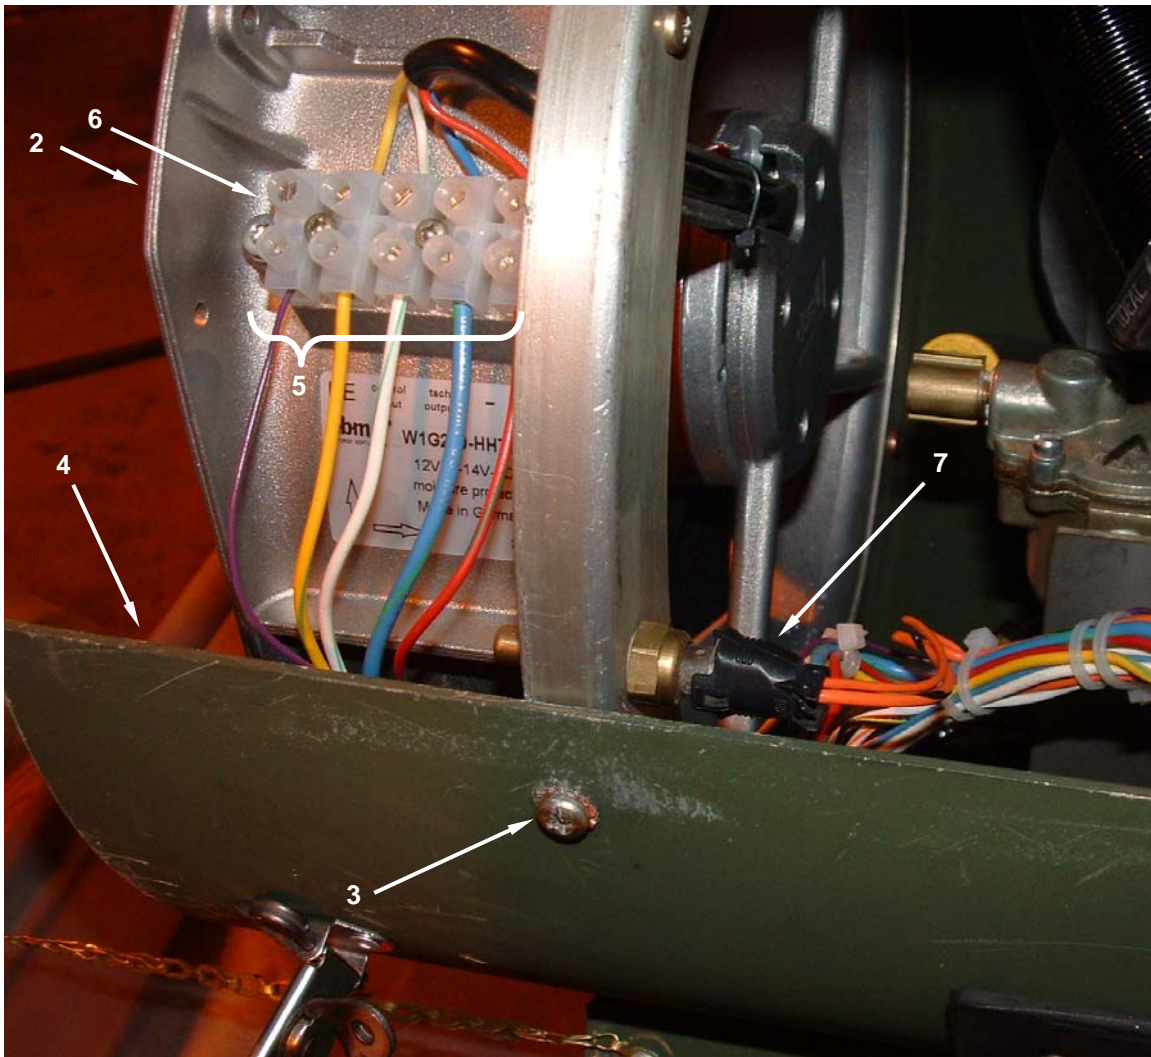

Figure 10. Replace the Electronic Box Assembly, Complete With Wire Harness – Install the Heated Air Blower.
21. Position the heater air blower assembly (**Figure 10, Item 2**), over the three holes on the lower assembly (**Figure 10, Item 4**).
22. Pull wires (**Figure 10, Item 5**) through the heated air blower assembly (**Figure 10, Item 2**).
23. Install the heated air blower assembly (**Figure 10, Item 2**) to lower housing assembly (**Figure 10, Item 4**), and retain with three screws (**Figure 10, Item 3**).
24. Place wires (**Figure 10, Item 5**) inside the air blower assembly connectors (**Figure 10, Item 6**); tighten terminal screws to secure.
25. Reconnect inlet air temperature sensor (**Figure 10, Item 7**).